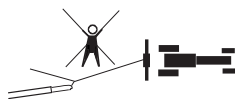

Fig. 2
- Winching with a pulley originates a three-sides dangerous area where none is allowed to stand during winching operations. (Figure 2)